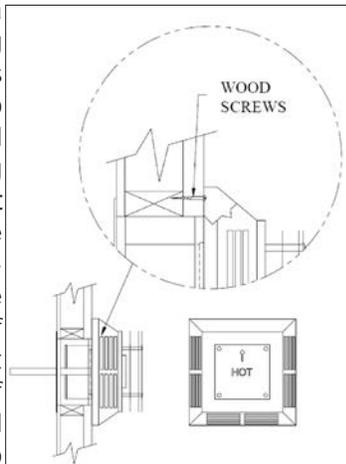

Figure 36: Fastening Horizontal Termination Cap in Place.
- (1) Any horizontal run of vent must have a $\frac{1}{4}$ inch (6mm) rise for every 1 foot (305mm) of run towards the termination. Never allow the vent to run downward. This could cause high temperatures and may present the possibility of a fire.
- (2) The location of the horizontal vent termination on an exterior wall must meet all local and national building codes, and must not be easily blocked or obstructed. Termination clearances must comply with the VENT TERMINATION RESTRICTIONS section.
Step 4. For a Square Horizontal Vent Termination, place the vent cap in the center of the square hole and attach to the exterior wall with the four wood screws provided (refer to Figure 36). Before attaching the Vent Termination to the exterior wall, run a bead of non-hardening sealant around its outside edges, so as to make a seal between it and the wall. If you are using Round Horizontal Vent Termination, place an exterior Wall Fire-stop over the square hole. Run a bead of non-hardening sealant around the edges of the Wall Fire-stop, and attach the Wall Fire-stop to the wall with the four wood screws provided. The arrow on the vent cap should be pointing up. Ensure that proper clearances to combustible materials are maintained.